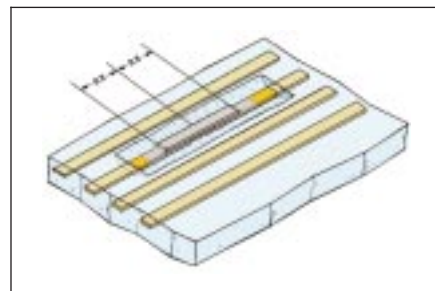

Figure 4 Conductor hairline crack repair.
8. For a hairline crack, the repair will consist of a lap replacement with no original conductor material removed. (See Figure 4.)